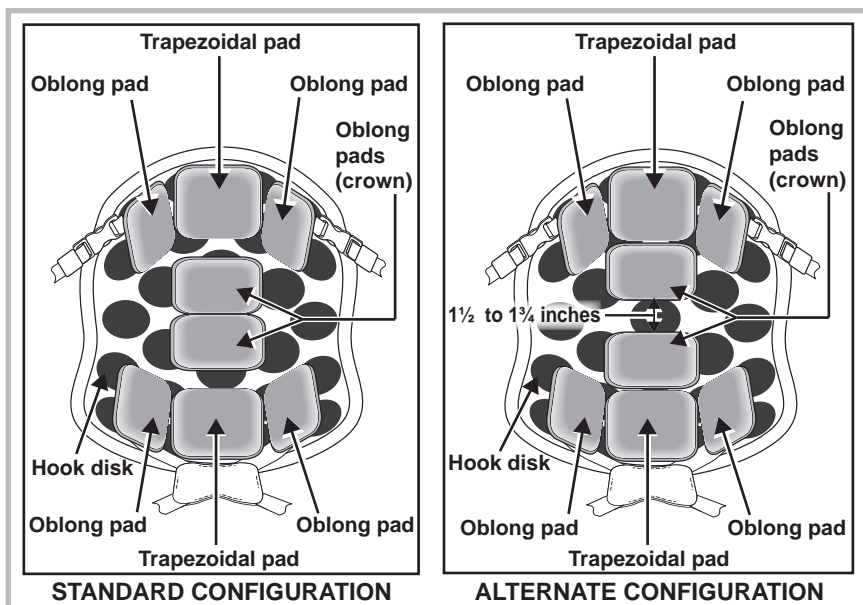

Figure 15. Pad Suspension System
Referring to **Figure 15**, remove the pads from the helmet, noting their position and orientation in the helmet. Also note the pad thickness (05C11950-5 is $\frac{3}{4}$ inch thick; 05C11950-6 is 1 inch thick).
1. Referring to **Figure 15**, install the replacement pads (of the same thickness) in the helmet. Ensure that the pads are firmly attached to the hook disks.